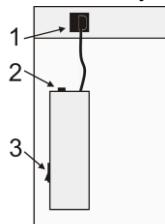

Figure 13.
8.2.2. Fuse for the mains outlets (for models with built-in mains outlets). Disconnect the unit from the electric circuit. Open the fuse holder by screwing off the holder lid (fig. 13/2 or 14/FU1). Check the fuse and replace, if necessary, **M 5.0 A** (type **M** - time lag: **Medium**).